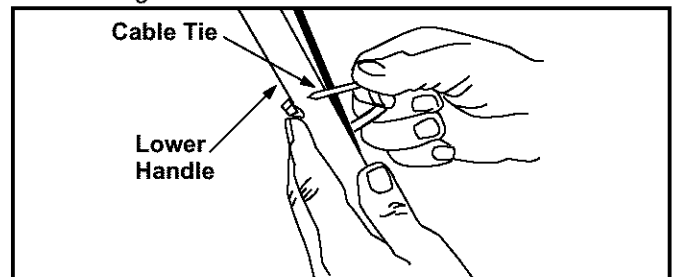

Figure 4
- Fasten the cable to the lower handle with the two cable ties found on the lower handle. Pull the cable ties tight and trim off the excess. See Figure 4.